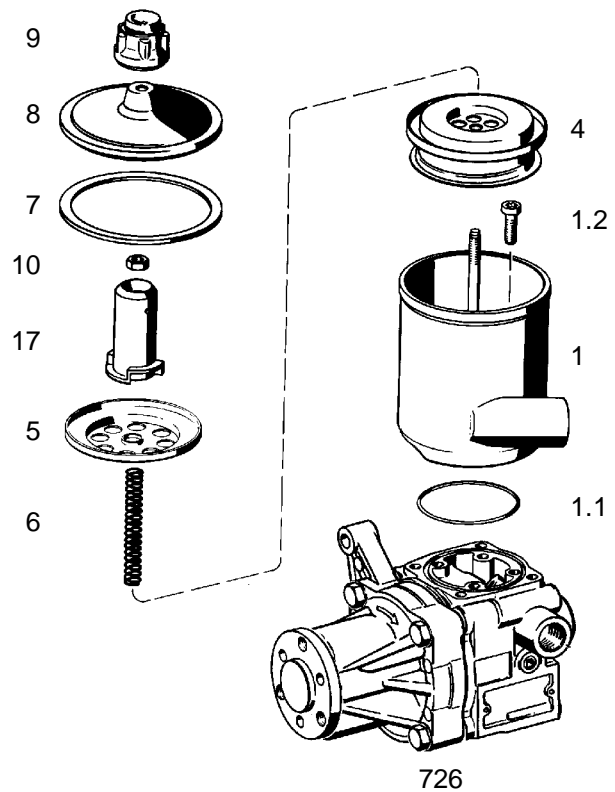

Fig. 36
7.2 Versions with hexagon nut (10)
Fit O-ring (1.1) to cover (726) (**Fig. 36**).